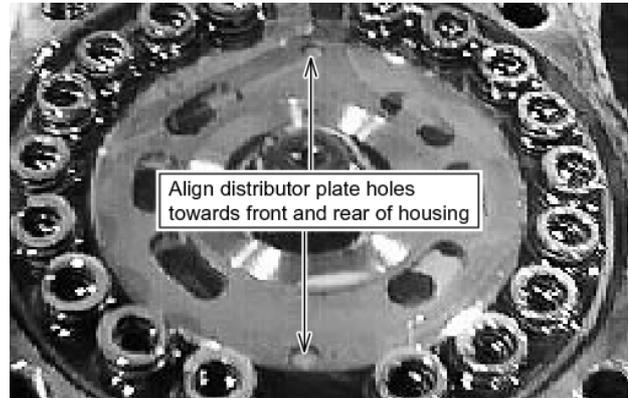

Fig. 8-13
11. Align the holes of the distributor plate in the swing motor until they are located toward the front and back of the swing motor housing. See Fig. 8-13.